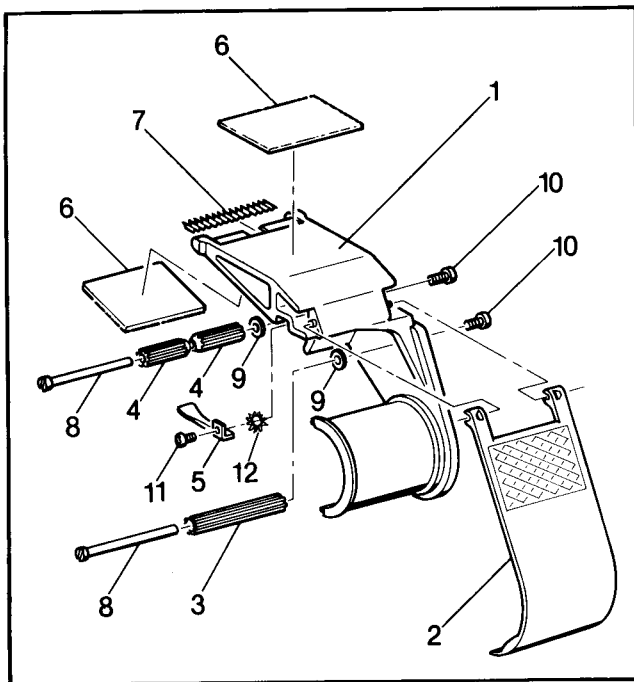

Figure 7
Refer to Figure 7
1. Refer to Figure 7 to find part needed and reference number.